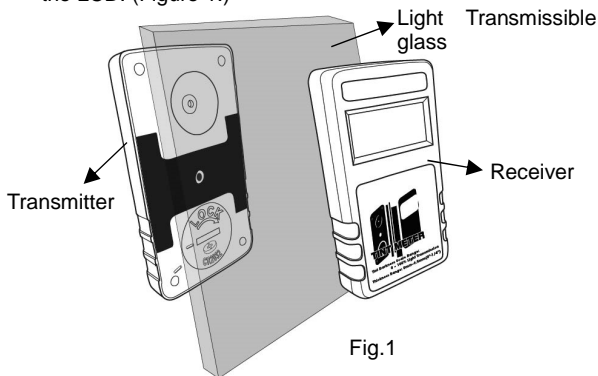

Fig.1
- Place the window mount of the transmitter of the glass to be measured and place the receiver on the other side of the glass. The measured percentage will be displayed on the LCD. (Figure 1.)